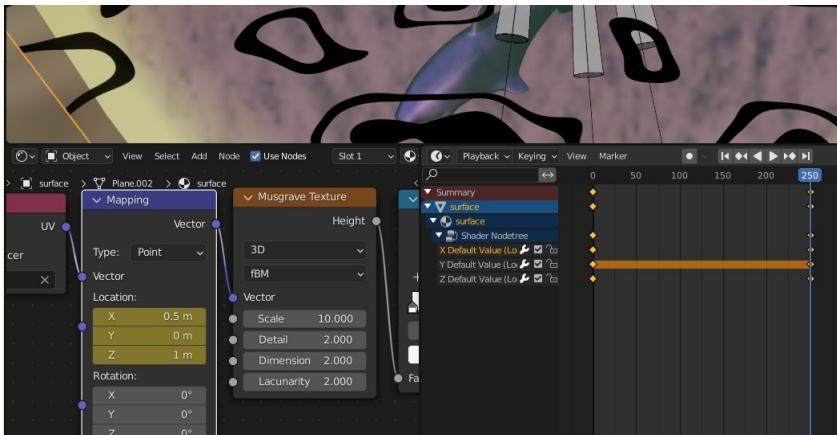

Figure 10-5 Node Layout and Timeline for Animated Shadows
2. In order to change the location of the texture in its third dimension, to represent time, you need to feed information into its Vector input. First select **Add ▶ Input ▶ UV Map** then create another node with **Add ▶ Vector ▶ Mapping** and take the UV map output via the mapping node to the musgrave texture input. The node layout is visible on the bottom left of Figure 10-5.